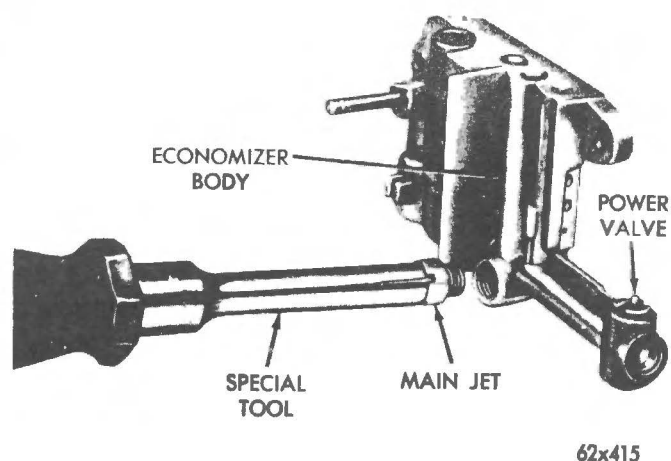

Fig. 18 - Removing or installing the main jet.
(10) Using Tool C-3748, remove the main jet from the economizer body (Fig. 18).
(5) Install the main jet in the economizer body using Tool C-3748 (Fig. 18).